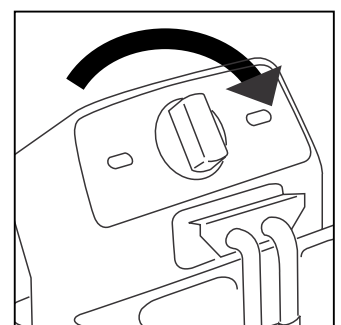

fig. 5
- Connect the fryer to the mains supply. Both lights will come on. Move the temperature control dial (see fig. 5) to the required temperature (see cooking table). The oil temperature light (green) goes off.